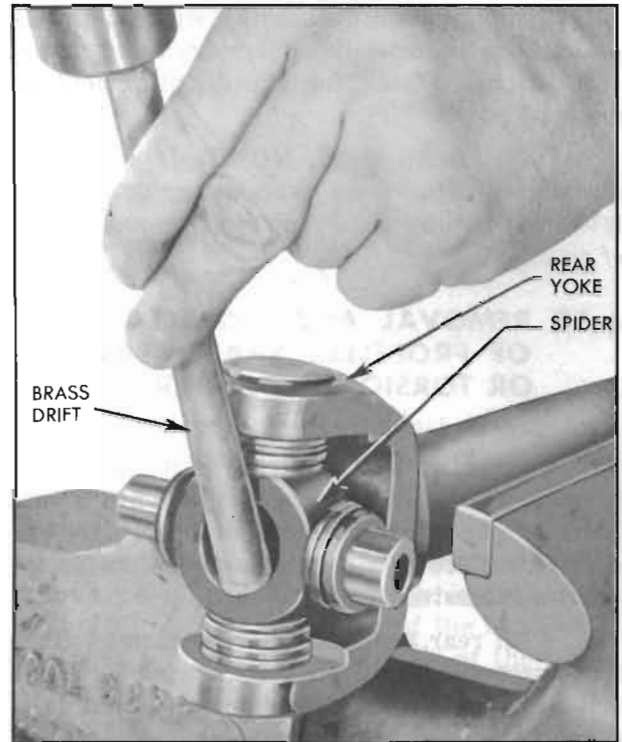

Figure 6-12—Removing Bearing from Rear Yoke
8. Clamp or support rear yoke in vise. Drive bearing out until snap ring groove is visible using a drift applied to center part of spider. See figure 6-12.